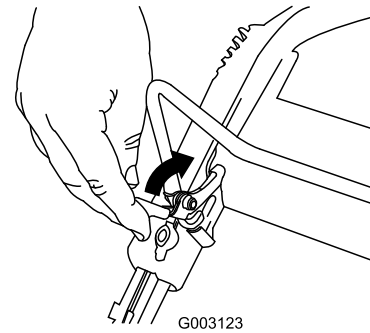

Figure 18
1. Pull the control bar lock back (Figure 18).